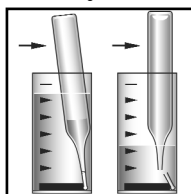

Figure 3
4. **Immediately** place the Vacu-vial ampoule, tip first, into the sample cup. Stir briefly to mix the contents of the cup, then snap the tip. The ampoule will fill leaving a bubble for mixing. Fig. 3